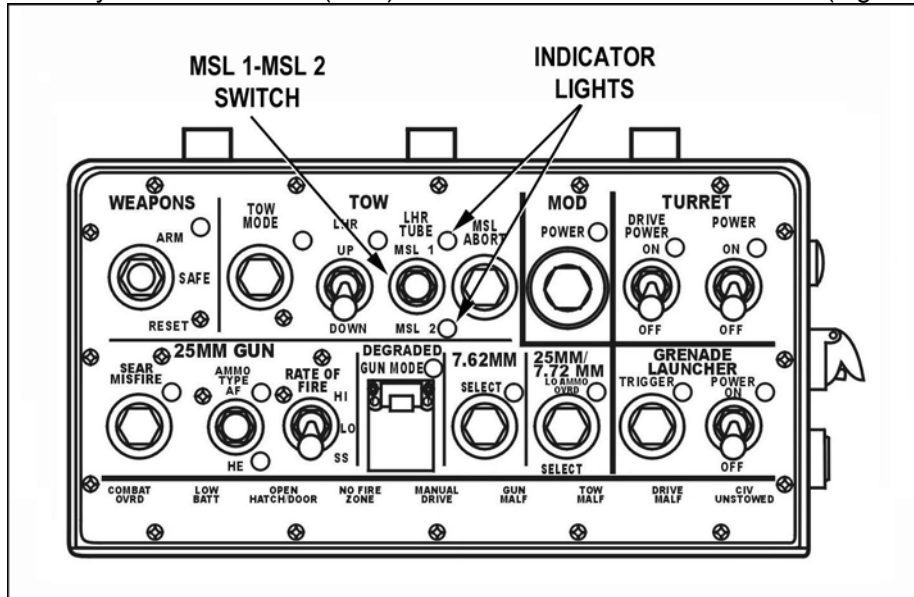

Figure 11. LHR TUBE switch.
- (1) If the OPEN HATCH/DOOR annunciator light is on ensure the driver's hatch cover, cargo hatch cover, and turret shield door are fully closed and locked in place. If all hatch covers are closed and the OPEN HATCH/DOOR annunciator light remains on, move the ARM-SAFE-RESET switch to RESET, then to SAFE, and notify unit maintenance.
- (2) If NO FIRE ZONE annunciator light is on, check the cargo hatch cover to ensure it is closed. If it is closed and the NO FIRE ZONE annunciator light remains on, move the ARM-SAFE-RESET switch to RESET, then to SAFE, and notify unit maintenance.
- (3) If TOW MALF annunciator light is on, move the ARM-SAFE-RESET switch to RESET, then to SAFE, and notify unit maintenance.
- g. Momentarily move the missile (MSL) selection switch to MSL 1 or MSL 2 (Figure 11).